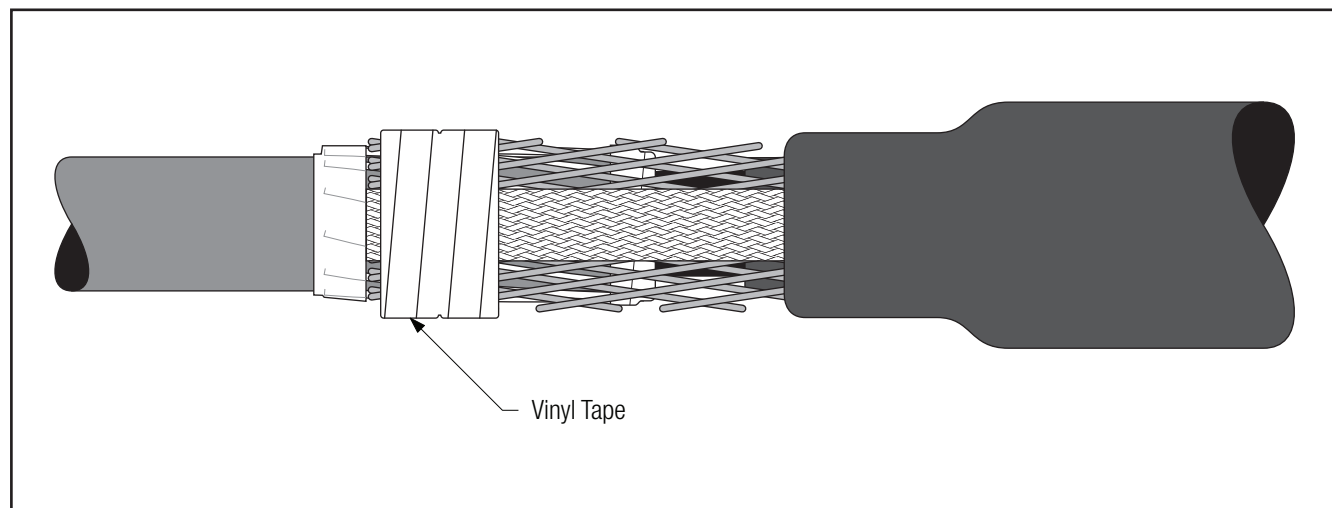

Figure 17
5.4 Wrap two half-lapped layers of vinyl tape over the constant force springs (*Figure 17*).